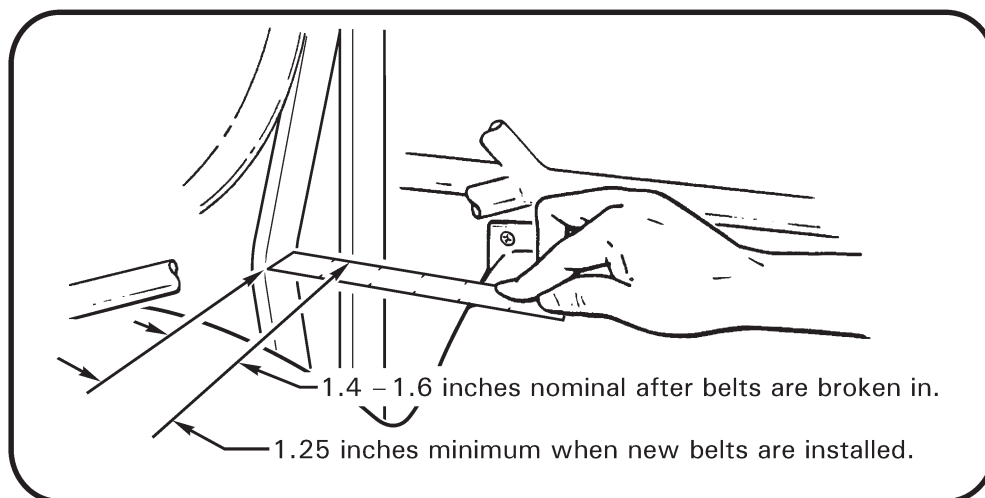

FIGURE 7-7A V-BELT DEFLECTION (ACTUATOR DISENGAGED)
11. Adjust actuator down-limit stop screw (see Figure 7-15) for V-belt deflection shown in Figure 7-7A.
11. Measure belt deflection with actuator disengaged. Using a scale and finger pressure, belts must deflect inward 1.4–1.6 inches per Figure 7-7A. Adjust actuator down-limit stop screw (see Figure 7-15) as required to obtain correct dimension. Tighten down-limit stop screw jam nut.